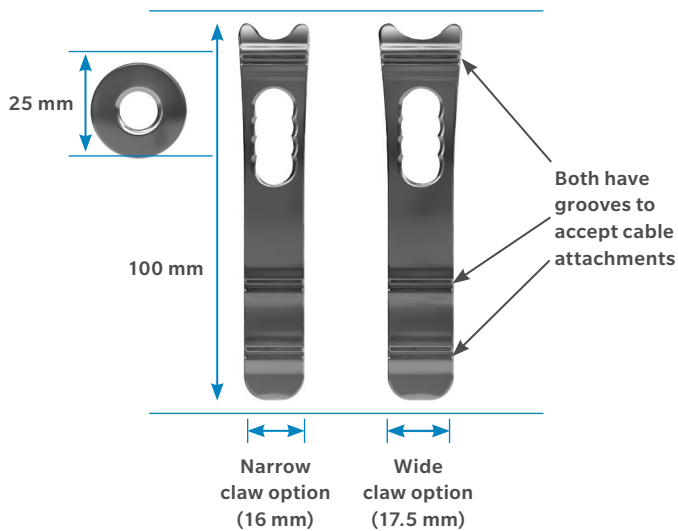

Figure 99
**Note:** Both the large and small claw are 100 mm in length, measured from top to bottom. The button is 25 mm in diameter (Figure 99).